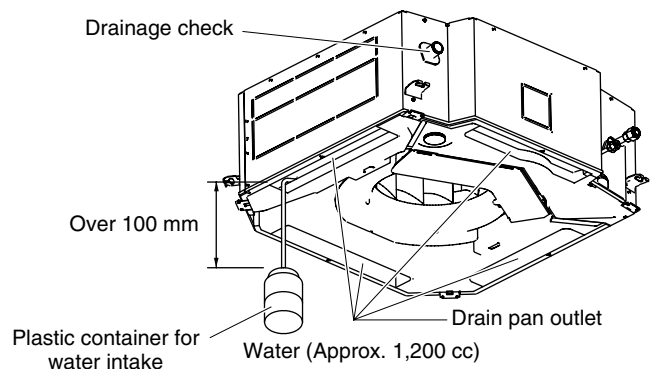

Fig. 3-43
- (1) Connect power to the power terminal board (R, S terminals) inside the electrical component box.
- (2) Slowly pour about 1,200 cc of water into the drain pan to check drainage. (Fig. 3-43)
- (3) Short the check pin (CHK) on the indoor control board and operate the drain pump. Check the water flow through the transparent drain pipe and see if there is any leakage.
- (4) When the check of drainage is complete, open the check pin (CHK) and remount the tube cover.